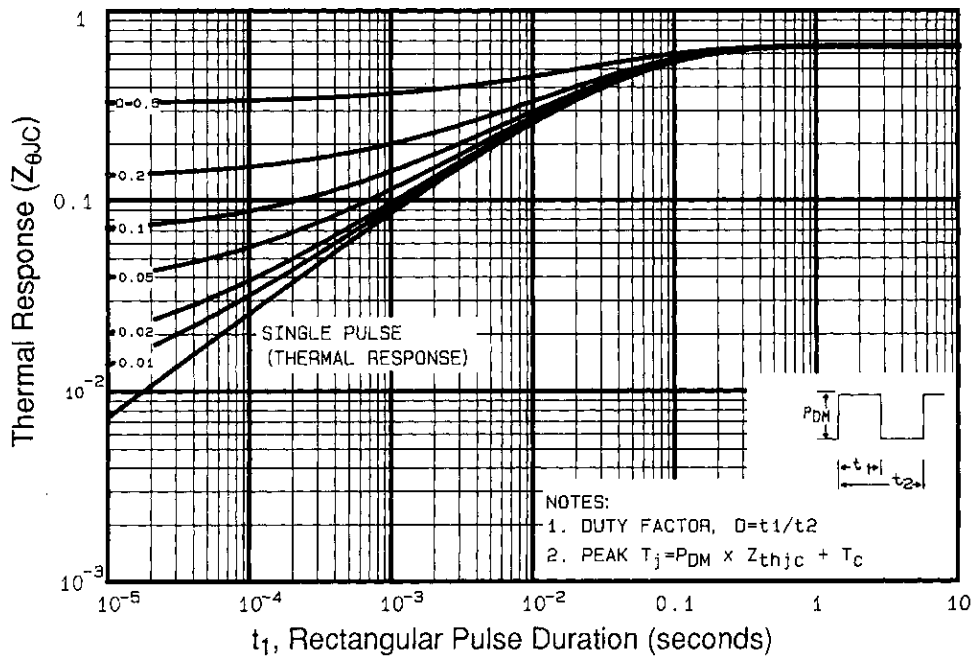

Fig 11. Maximum Effective Transient Thermal Impedance, Junction-to-Case
① Repetitive rating; pulse width limited by max. junction temperature (See Figure 11)
③ $I_{SD} \leq 7.8A, di/dt \leq 140A/\mu s, V_{DD} \leq 600, T_J \leq 150^\circ\text{C}$